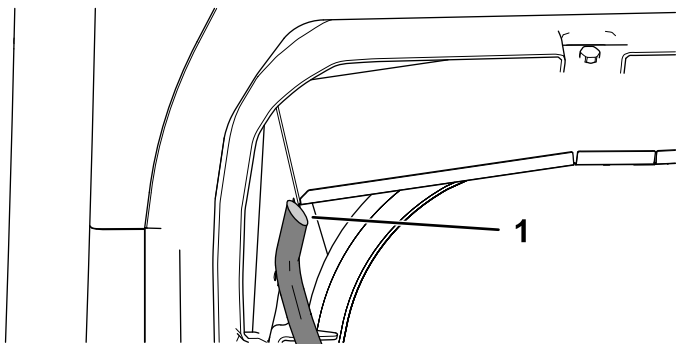

Figure 44
- Pinch each end of the clear tube and cut it at a 45° angle (Figure 44).
- Align the clear tube with the bottom of the water gutter so that the top of the angle is to the outside of the machine and install it (Figure 44).